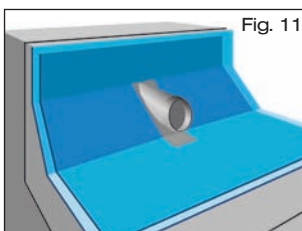

Fig. 11
- 2.4 Cut the **connecting sheet** of the existing bituminous roof sealing sheet, size approximately 700 mm x 1000 mm to length on site, and make a cut-out in the region of the socket joint (Fig. 11).